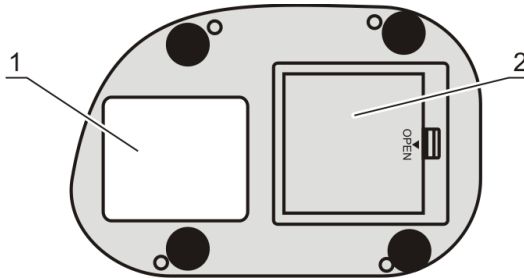

Figure 1. View from below
- (for **DEN-1B**) Battery installation. Pull back the pin on the battery compartment (fig. 1/2) on the underside and open lid. Insert batteries as shown on the scheme inside and close the lid.
- 4.4. **Factory calibration.** The device is pre-calibrated at the factory for operation with the glass tubes 16 mm in external diameter (see the label on the bottom side of the unit, fig. 1/1) at temperature range from +15°C to +25°C and saves calibration data when being switched off.
- 6.1. The unit is pre-calibrated at the factory for operation with the glass tubes 16 mm in external diameter (see the label on the bottom side of the unit, fig. 1/1) at temperature range from +15°C to +25°C and saves calibration data when being switched off. To use different types of tubes, recalibrate the unit as shown below.